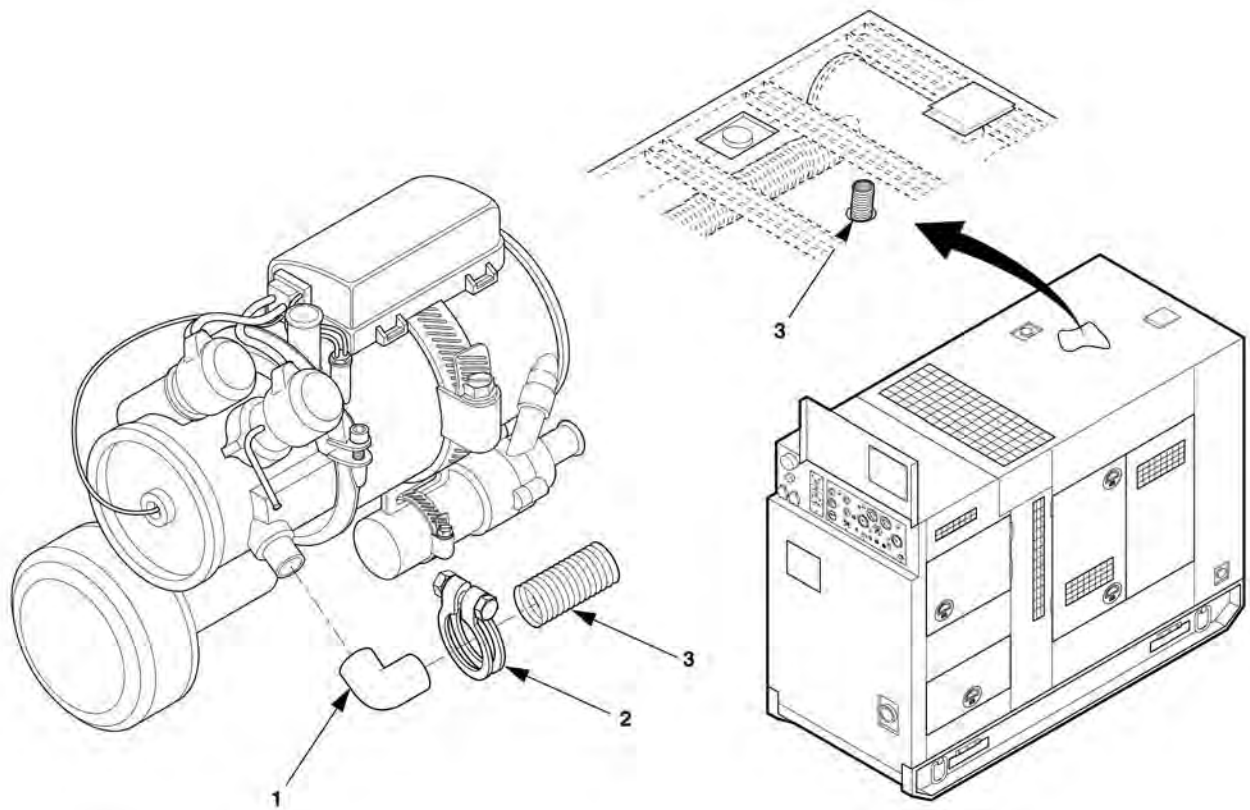

Figure 4-43. Exhaust Hose Removal
12. Remove hose (3), Figure 4-43, from elbow (1) by loosening clamp (2) and remove the other end of hose (3) from ceiling duct floor. Remove clamp from top of exhaust manifold on engine. Remove elbow (1) from heater.